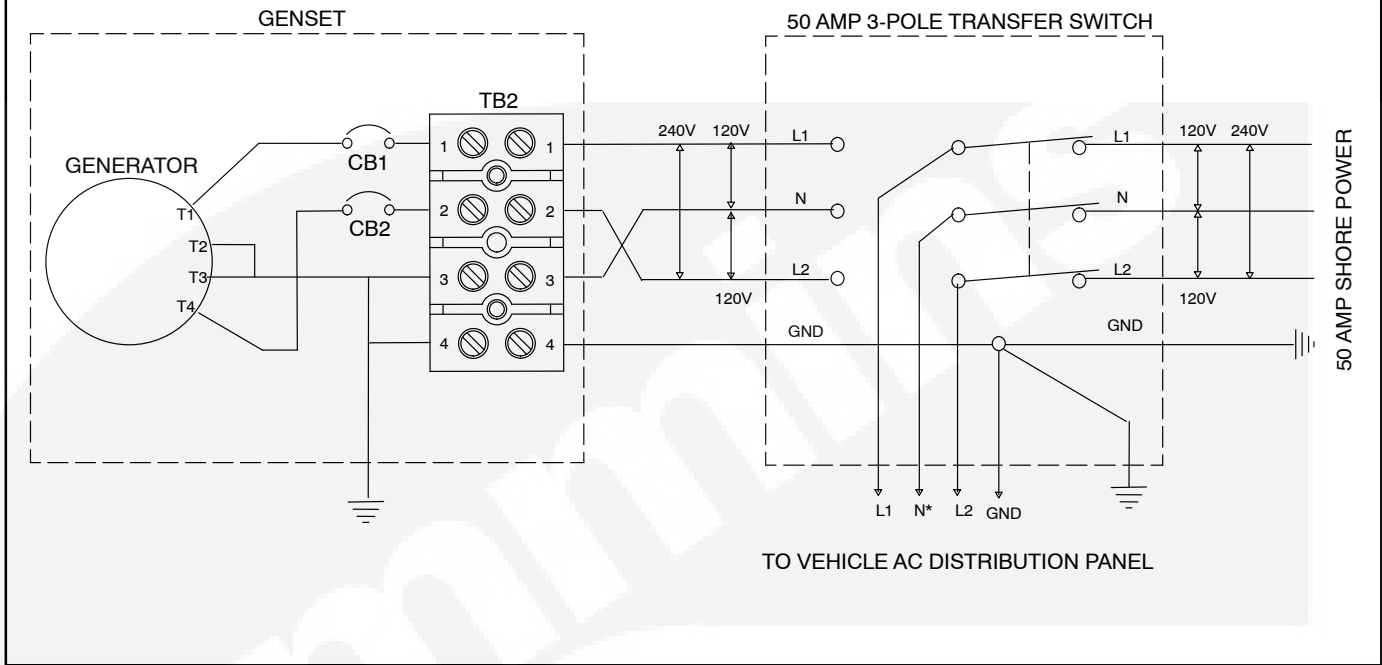

FIGURE 5-3. TYPICAL AC CONNECTIONS
8. Connect the grounding terminal (Terminal TB2-4, Figure 5-3) in accordance with applicable codes.
A vehicle with provisions for connecting utility (shore) power must have an approved device to keep the genset and utility from being interconnected. See Figure 5-3 for typical connections.